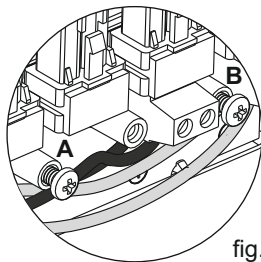

fig.2
- Ensure fixing screws A & B are backed off approximately 4mm from their fully home position (fig.2).